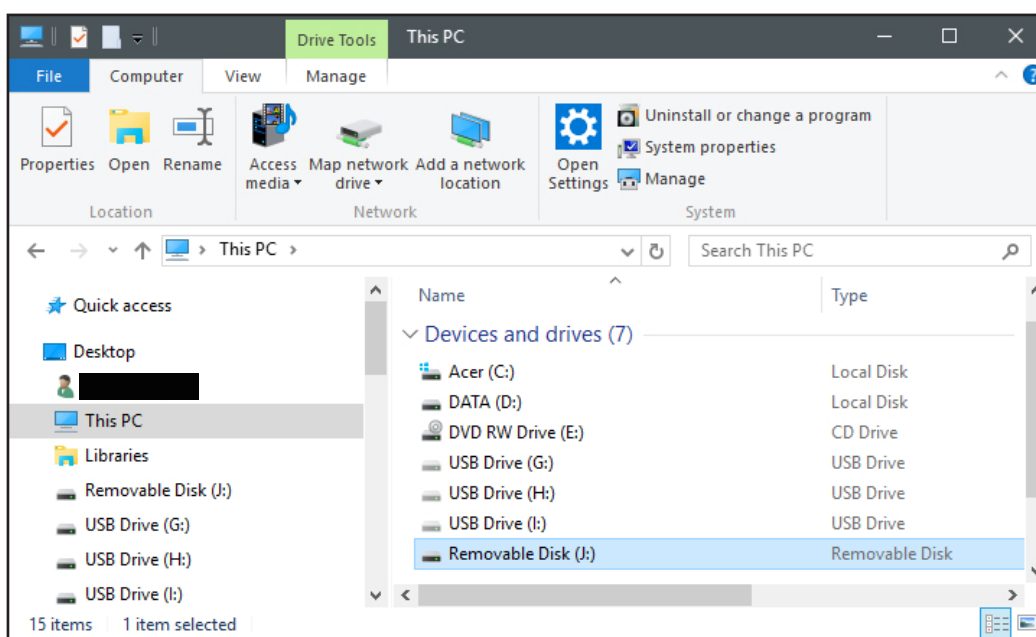

Fig 3
**Alternate:** When the A 1717 is in Alternate mode (DIP1 switch1 OFF) (see Fig 3) the closing contact must be held for the duration of the MP3 play time, if it is released before the MP3 ends the MP3 will stop playing immediately. If the contact is held closed continually the MP3 will continue to loop over and over until the contact is released.
**Momentary:** In Momentary mode (DIP1 switch1 ON) (see Fig 3) a momentary closing contact or pulse on the trigger pins will activate the MP3. The A 1717 will continue to play the MP3 till it finishes and will stop playing and wait for another trigger activation.
In this case it is named "Removable disk (J:)" as shown in figure 3.